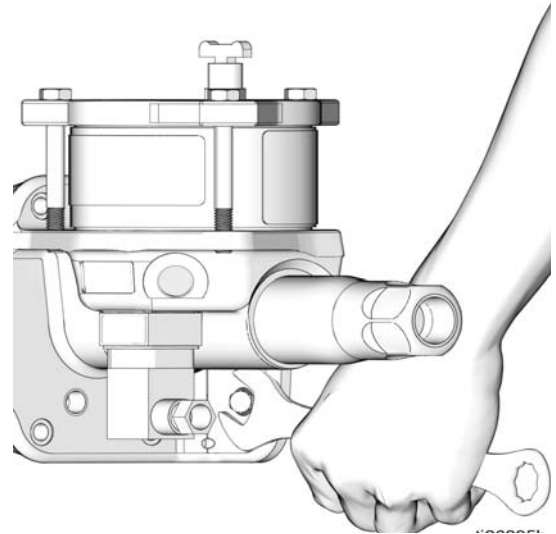

FIG. 14
7. Remove mounting bolts (FIG. 14) and remove the pump from service.